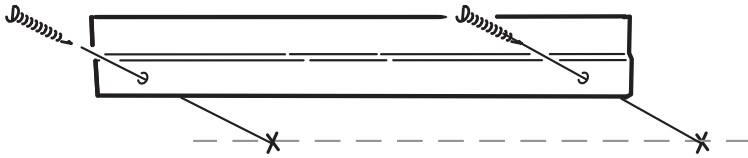

Fig. 2. - Mounting Bracket
3. Remove the cabinet from the wall and using a spirit level, mark a horizontal line 40mm below the pencil mark. Hold the mounting bracket in place with the holes corresponding with the marked line. Ensure the bracket is central, and mark the position of the holes, *see Fig. 2*.